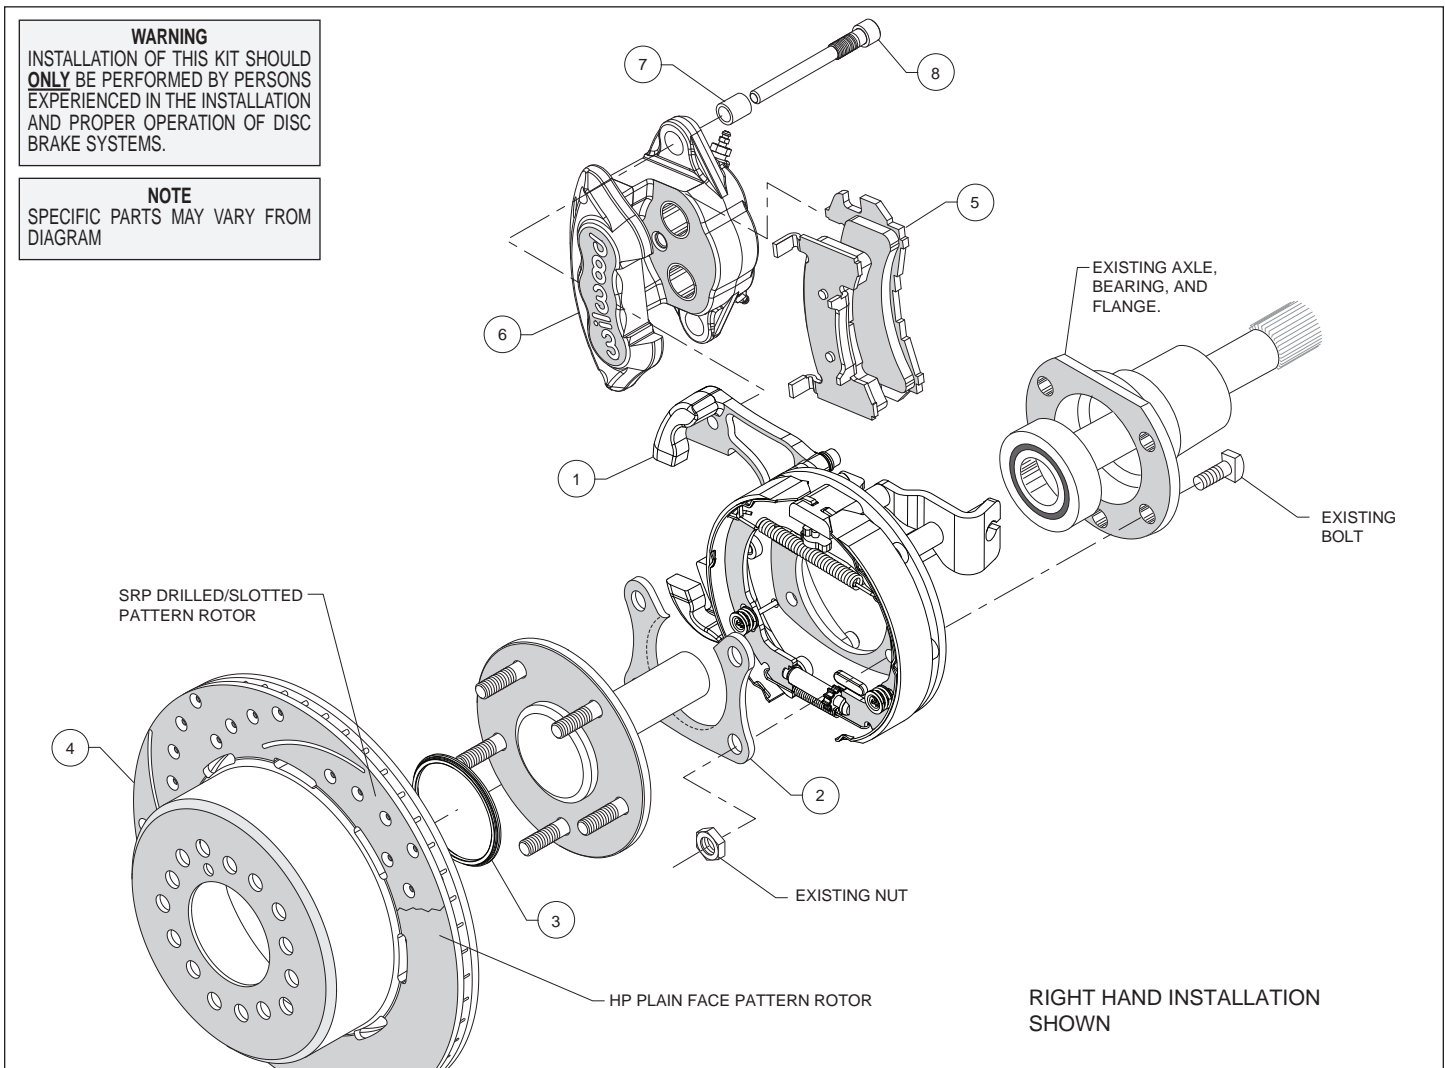

Figure 1. Typical Installation Configuration
**Assembly Instructions** (numbers in parenthesis refer to the parts list, and Figure 1 on the preceding pages): **CAUTION:** All mounting bolts must fully engage threaded holes.
- Orient the bracket assembly (1) as shown in Figure 1 and Photo 1 and slide it onto the axle. Insert the axle and bracket into the axle housing. Ensure that the bracket assembly backing plate fits flush against the axle housing flange.
- Install the bearing retainer (2) with the opening pointing upward and the lip facing inward (toward the bearing), as shown in Figures 1 and 4, and Photo 2. Secure retainer and bracket assembly to the axle housing flange using the Original Equipment Manufacturer (OEM) bolts and nuts, Figure 1. Apply red *Loctite*® 271 to the OEM bolt threads and torque to OEM specifications.
- Slide the rotor registration adapter (3) onto the axle register on the axle flange with the smaller O.D. facing toward the rotor/hat (4), Photo 3. Align the correct hole pattern in the rotor/hat with the stud pattern on the axle flange and slide into place, Figure 1 and Photo 4. **NOTE:** The rotor/hat must fit flush against the axle flange or excessive rotor run out may result. Install three lug nuts (finger tight) to keep the rotor/hat assembly in place while continuing with the installation. **NOTE:** Some OEM and after market axles come with stud sizes larger than 0.50" diameter. Verify stud size and have a qualified machine shop drill the bolt circle of the hat/rotor to the correct stud size, if necessary.
- Install the disc brake pads (5) into the caliper (6) with the friction material facing the rotor, as shown in Figure 1 and Photo 5.
- Install sleeves (7) onto slide pin bolts (8). Apply white lithium grease (available from your local auto parts store) to the slide pins/sleeves, as shown in Photo 6. **Do not apply to threads.** Mount the caliper (6) onto the mounting bracket (1) using slide pin bolts, as shown in Figure 1. Torque to 35 ft-lbs.